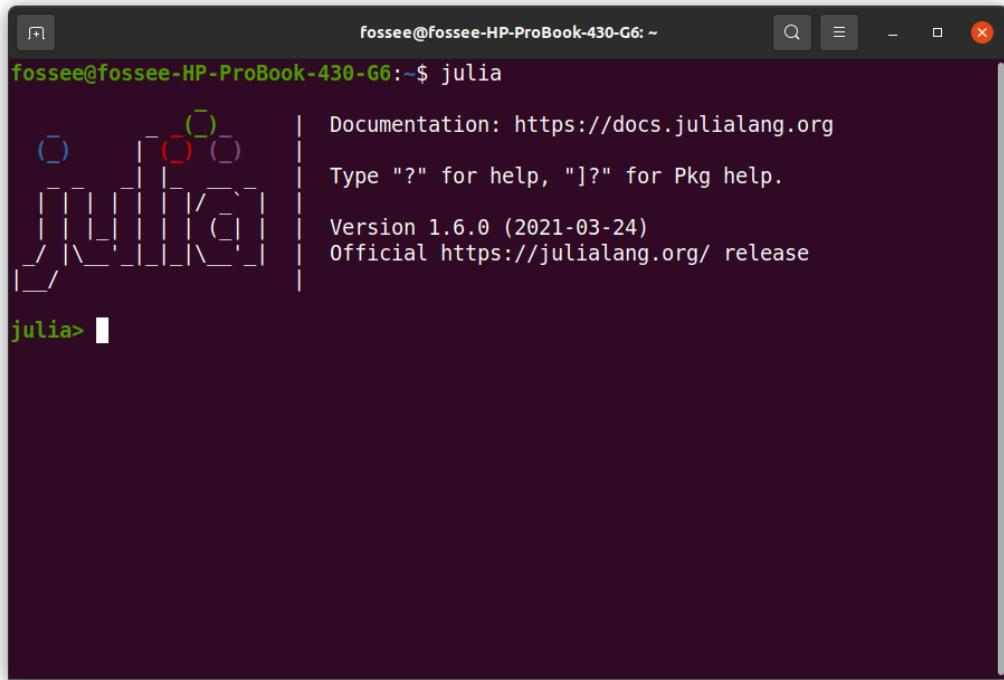

Figure 3.12: Linux terminal to launch Julia REPL
1. Open a Terminal by pressing `Ctrl+Alt+T` keys together. Type `julia` and press Enter. It should launch Julia in an interactive session (also known as a read-eval-print loop or "REPL"), as shown in Fig. 3.12. When run in interactive mode, Julia displays a banner and prompts the user for input. By default, Julia REPL appears in Julian prompt. It is the default mode of operation; each new line initially starts with `julia>`, as shown in Fig. 3.12. It is here that you can enter Julia expressions. Hitting return or Enter after a complete expression has been entered will evaluate the entry and show the result of the last expression.
We can also check the status of this package to verify whether it has been installed successfully or not. For this, we need to get back to Julia REPL. Inside Pkg REPL, press backspace. The moment you press backspace, you get back to Julia REPL, as shown in Fig. 3.12. Now, type using Pkg and press Enter. This command will not generate any output. Now type Pkg.status() and press Enter. It should display the list of packages installed in Julia's environment. Please make sure that SerialPorts is present in the list of packages being shown. To exit the interactive session, type CTRL+D or type exit().